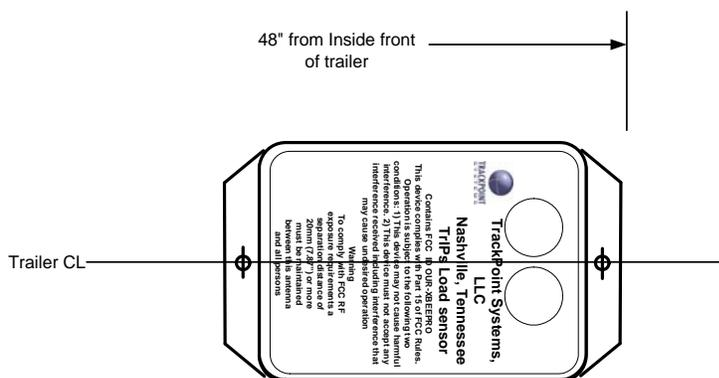

Figure 1
6.1. The LS shall be orientated on the trailer ceiling as shown in Figure 1: